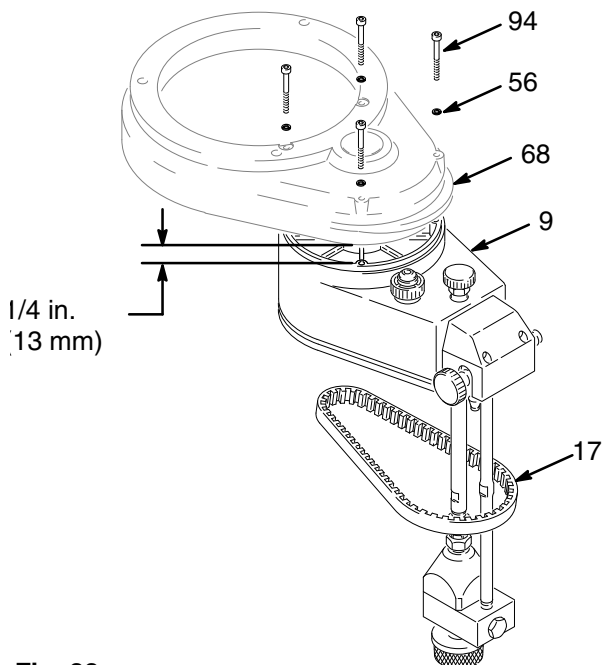

Fig. 33
5. Remove the four screws (94) and lockwashers (56) holding the lower drive housing (9) and upper drive housing (68) together. See Fig. 33.
8. Separate the drive housing (9) and shield (68) as far as they will go without forcing them, which is about 1/4 in. (13 mm). See Fig. 33.
9. Slide the belt (17) out of the slot created between the upper and lower drive housings (9 & 68). Pull the belt over the lower housing (9) and then over the pump assembly. See Fig. 33.
10. Install the new belt (17) in the reverse order of disassembly. Before mounting the engine, check the belt deflection as in Step 11.